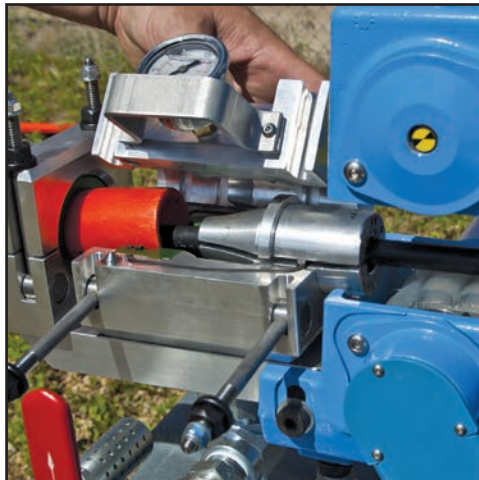
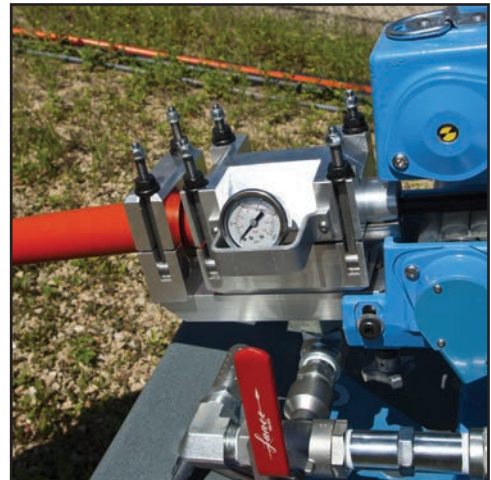

Figure 15. Install Top Venturi
Figure 16. Close Air Block and tighten
10. Install top Venturi (Figure 15). Close Air Block and tighten (Figure 16).